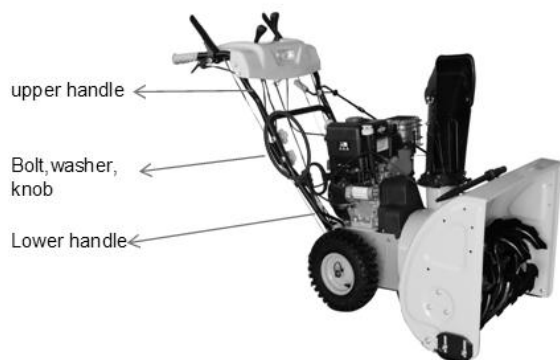

Figure 2
3. 2. Secure the upper handle and lower handle with the four plastic knobs, cupped washers and carriage bolts previously removed and tighten the upper four plastic knobs. See figure 2
1. Remove the nylon locknut and washer on the chute rod bracket using a wrench. See figure 2